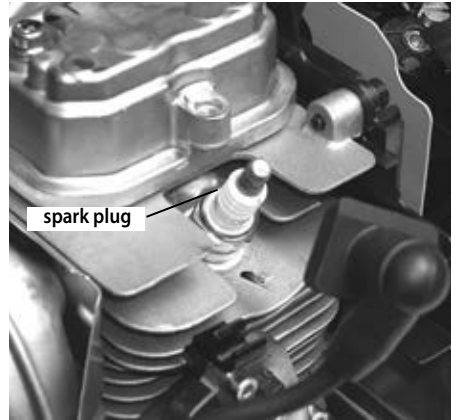

FIG. 30 – SPARK PLUG CLEANING
13.2.3) Spark plug cleaning (Ref. to Fig. 30)